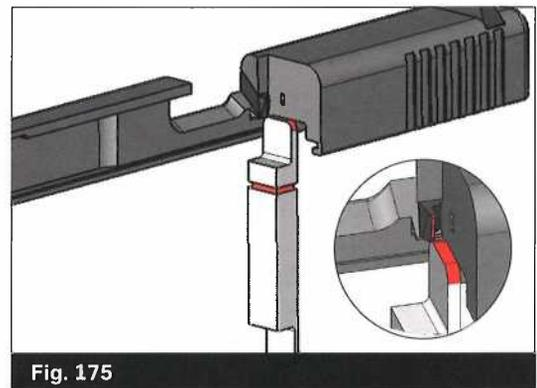

Fig. 175
**“NO GO”** The gauge will not pass behind the extractor claw. (Fig. 175)